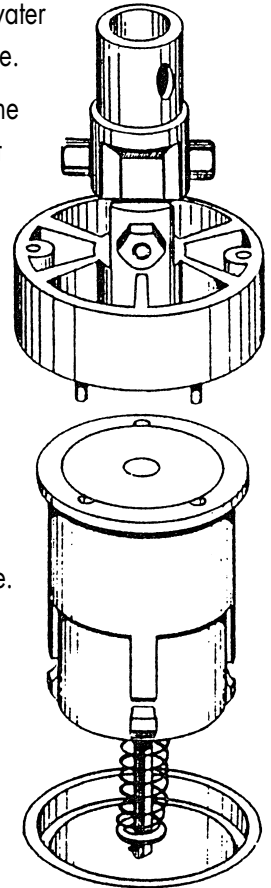

FIGURE 8
1. Remove the pop-up cleaning head from the pool (see figure 8).